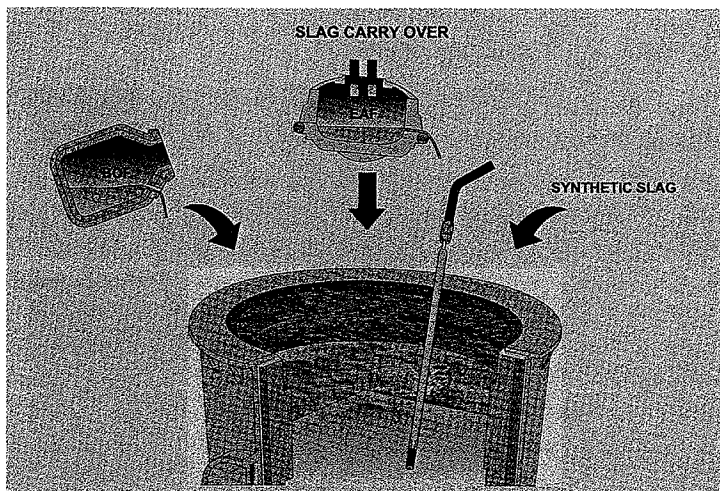

Fig. 8: Primary steelmaking slag added to ladle slag formers influence metallurgical ladle operations.
- Additional slag formers to dilute FeO down to an acceptable level, Fig. 8